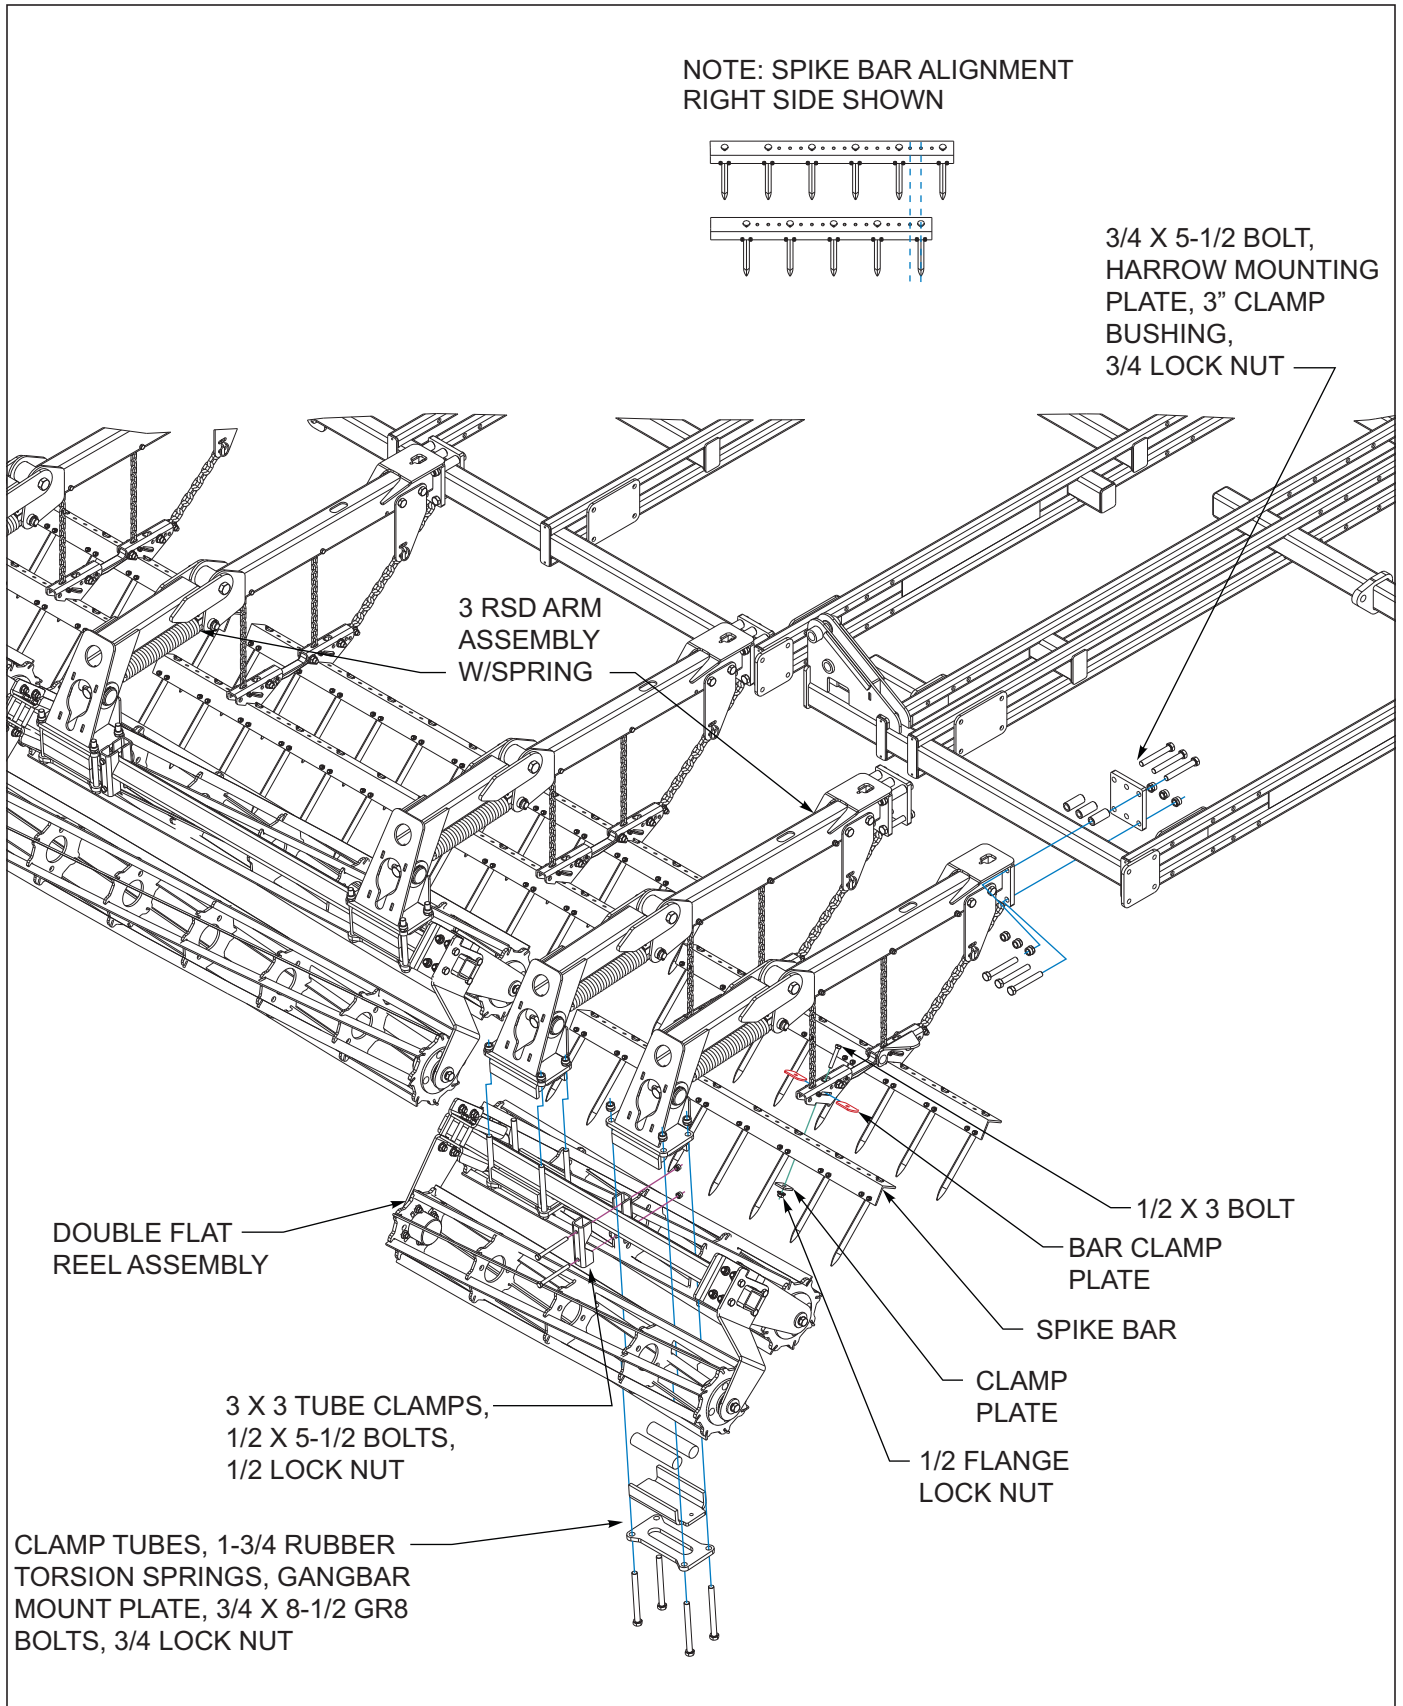

Figure 3-24: 2RS DBL Flat Reel Installation
1. Attach the 2RSD arm assemblies to the rear tube of the center and wing frames using harrow mounting plates, 3/4-10x5-1/2 hex screws, clamp bushings and 3/4-10 lock hex nut See Figure 3-24.
2. Refer to Note: spike bar alignment See Figures 3-24 for proper alignment of spike bar assemblies. Be sure they are aligned properly on both right and left side of each section.